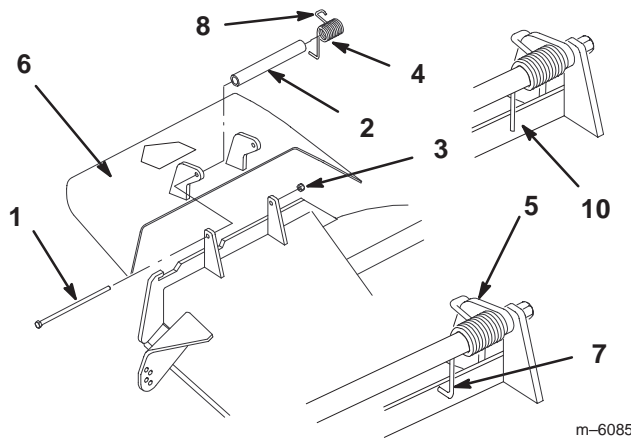

Figure 27
The grass deflector spring will have either an **L** end or a straight end (Fig. 27).
Note: Make sure the **L** or the straight end of spring is installed behind deck edge before installing the bolt as shown in figure 27.
2. Install bolt and nut. Place **J** hook end of spring around grass deflector (Fig. 27).